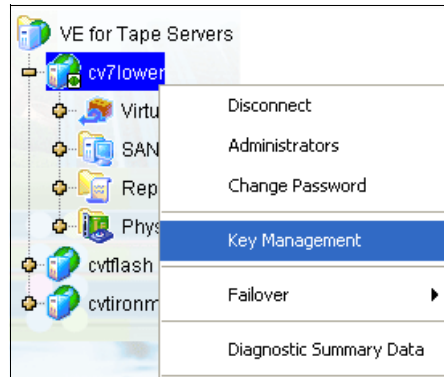

Figure 12-57 Starting the key management process
1. Right-click the TS7530 Server name and click **Key Management** (Figure 12-57).